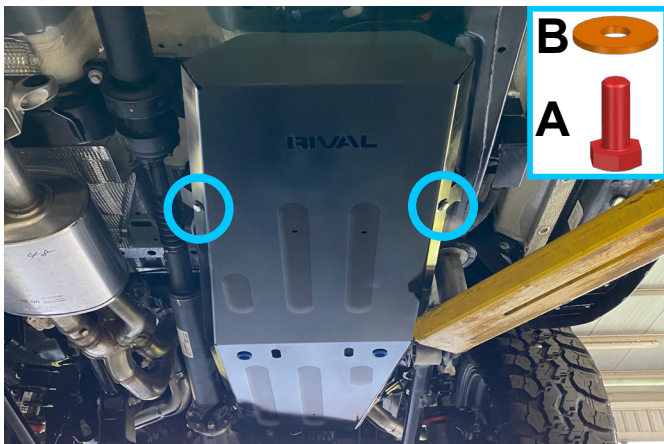
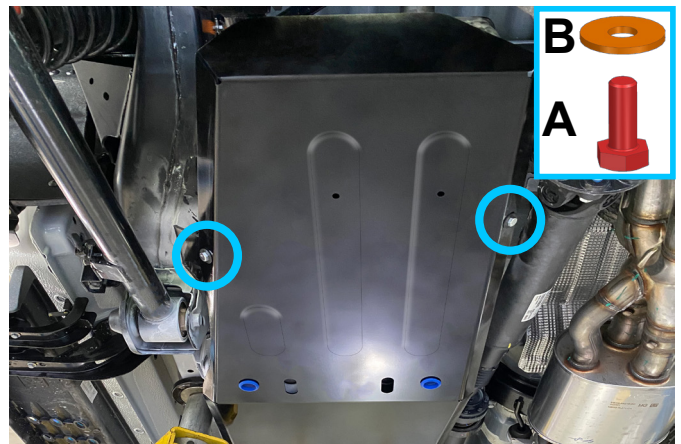

Fig. 11
Fig. 12
11. Attach the gas tank skid plate (item 1) to brackets using bolts M10x25 (item A) and washers 10 (item B), as shown in fig.11 and fig.12.